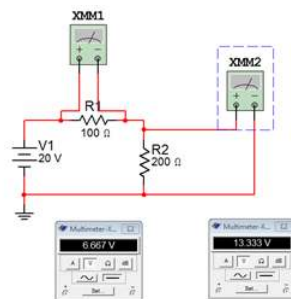

Figure 1.1.6
Once the components are in place and wired, double-click each component to set their values as shown in Figure 1.1.6. If you're using power rated virtual resistors, also increase their power rating to one watt, each. We shall then add two the two voltmeters.
To add the voltmeters (XMM1 and XMM2 in Figure 1.1.6), select a virtual DMM from the top of the Instruments toolbar along the right edge of the screen. Drag this onto the work space and wire it across R1 as shown in Figure 1.1.6. Grab a second virtual DMM and repeat the process for R2. Now double click on the DMMs. Two small windows will pop up (they might overlap each other, if so, move one over). Select the V (voltage) button and the straight line (DC) button on each of them. The circuit is now ready to perform a simulation.